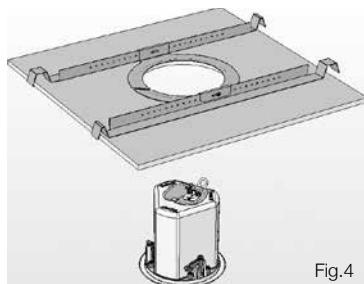

Fig.4
4. Slide the speaker assembly through the hole and turn the screws on the front of the speaker to extend the mounting wings. Tighten the screws until a firm grip is achieved. If using a power driver, Tannoy recommends a torque setting of 1.5 Nm. (Fig.4)